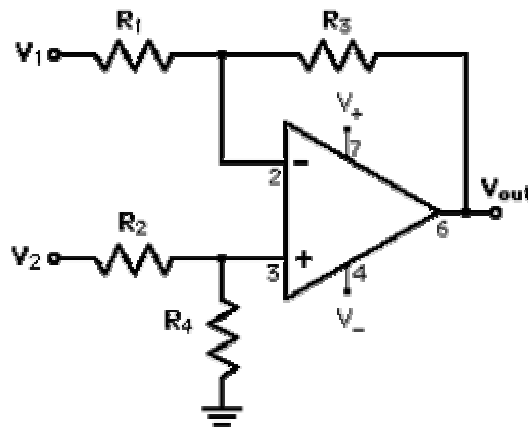

Figure 6: The difference amplifier with generic resistor values
The last configuration that will be discussed is the difference amplifier. The main point of this amplifier is that there are two input voltages and the output is a function of the difference of the two inputs. The configuration shown in Figure 6 is that of the difference amplifier. If the resistor values are chosen such that $R_1 = R_2 = R_3 = R_4$ the difference amplifier will act as a unity gain amplifier. There can also be a gain to the amplifier, and in this case $R_1 = R_2$ and $R_3 = R_4$ with the gain being a function of these combinations.
2. Using any analysis technique desired, find the transfer function of the difference amplifier shown in Figure 6. Show your work for credit.